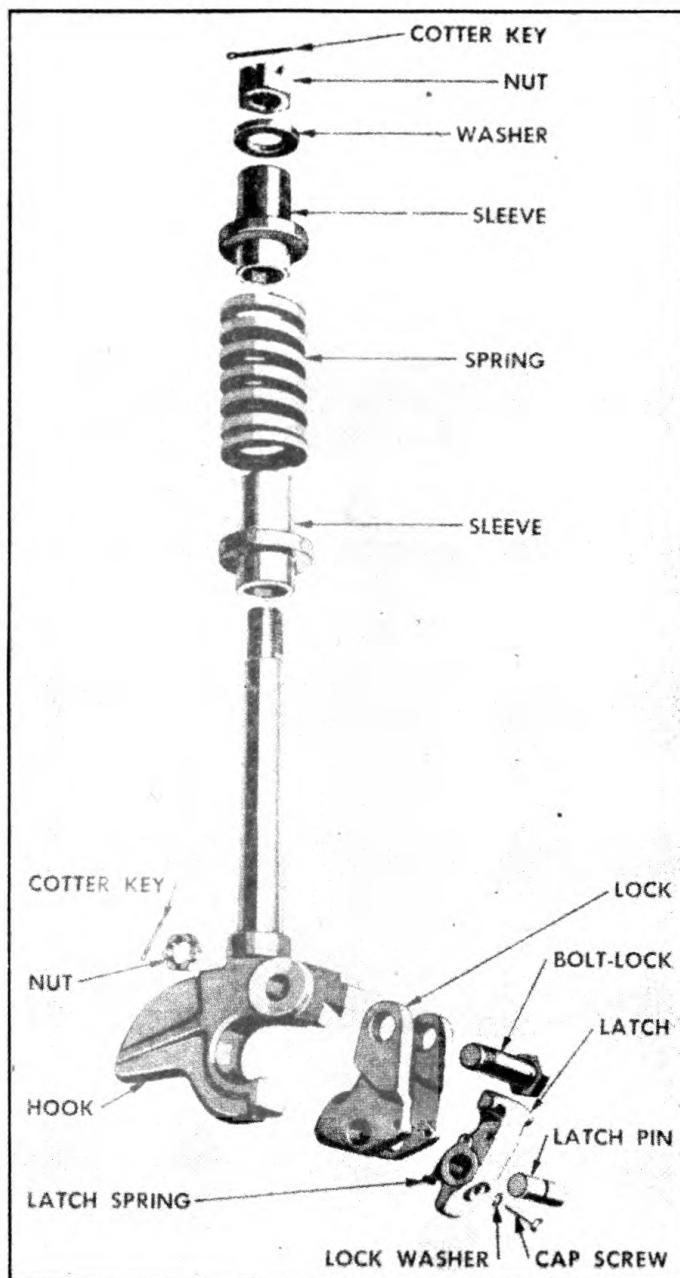

FIGURE 57. PINTLE HOOK—EXPLODED
2. **DISASSEMBLY** (Figure 57).—*a.* Place shaft end of hook (1) firmly in vice.
*b.* Remove cap screw (10) from latch and drive out latch pin (7).
*c.* Lift out the latch (3).
*d.* Remove cotter key (15) and nut (12) from the lock bolt (9) and pull bolt out.